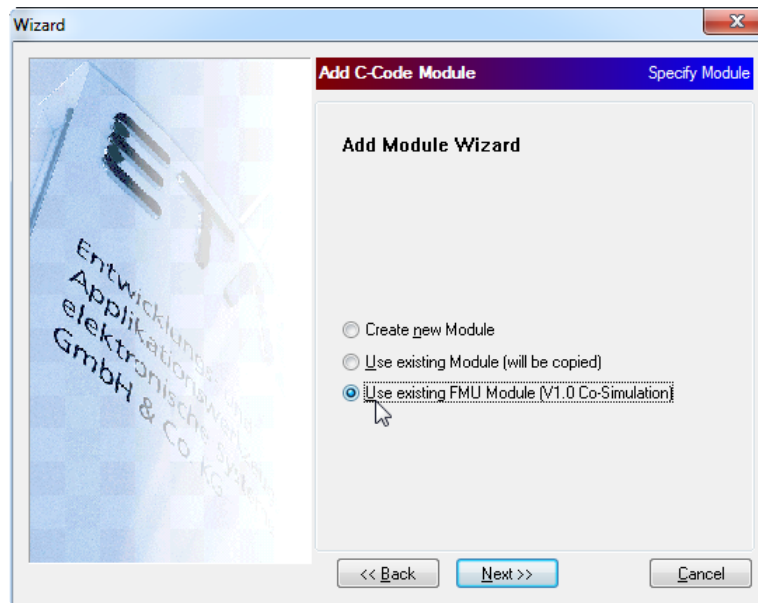
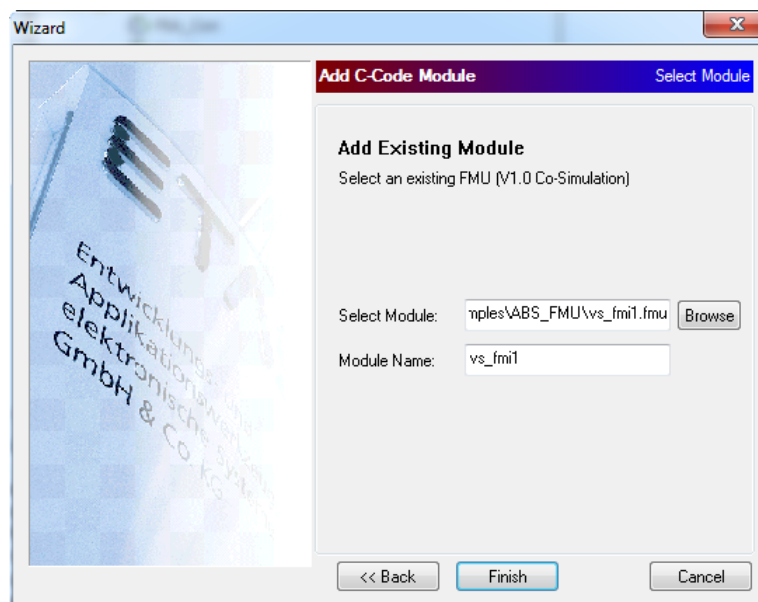

Figure 32. Select Use existing FMU Module.
Figure 33. Add the vehicle solver FMU “vs\_fm1.fmu.”
10. Select Use existing FMU model (V1.0 Co-Simulation), see Figure 32. Browse to the location where FMU file was generated in the previous step (Figure 33):